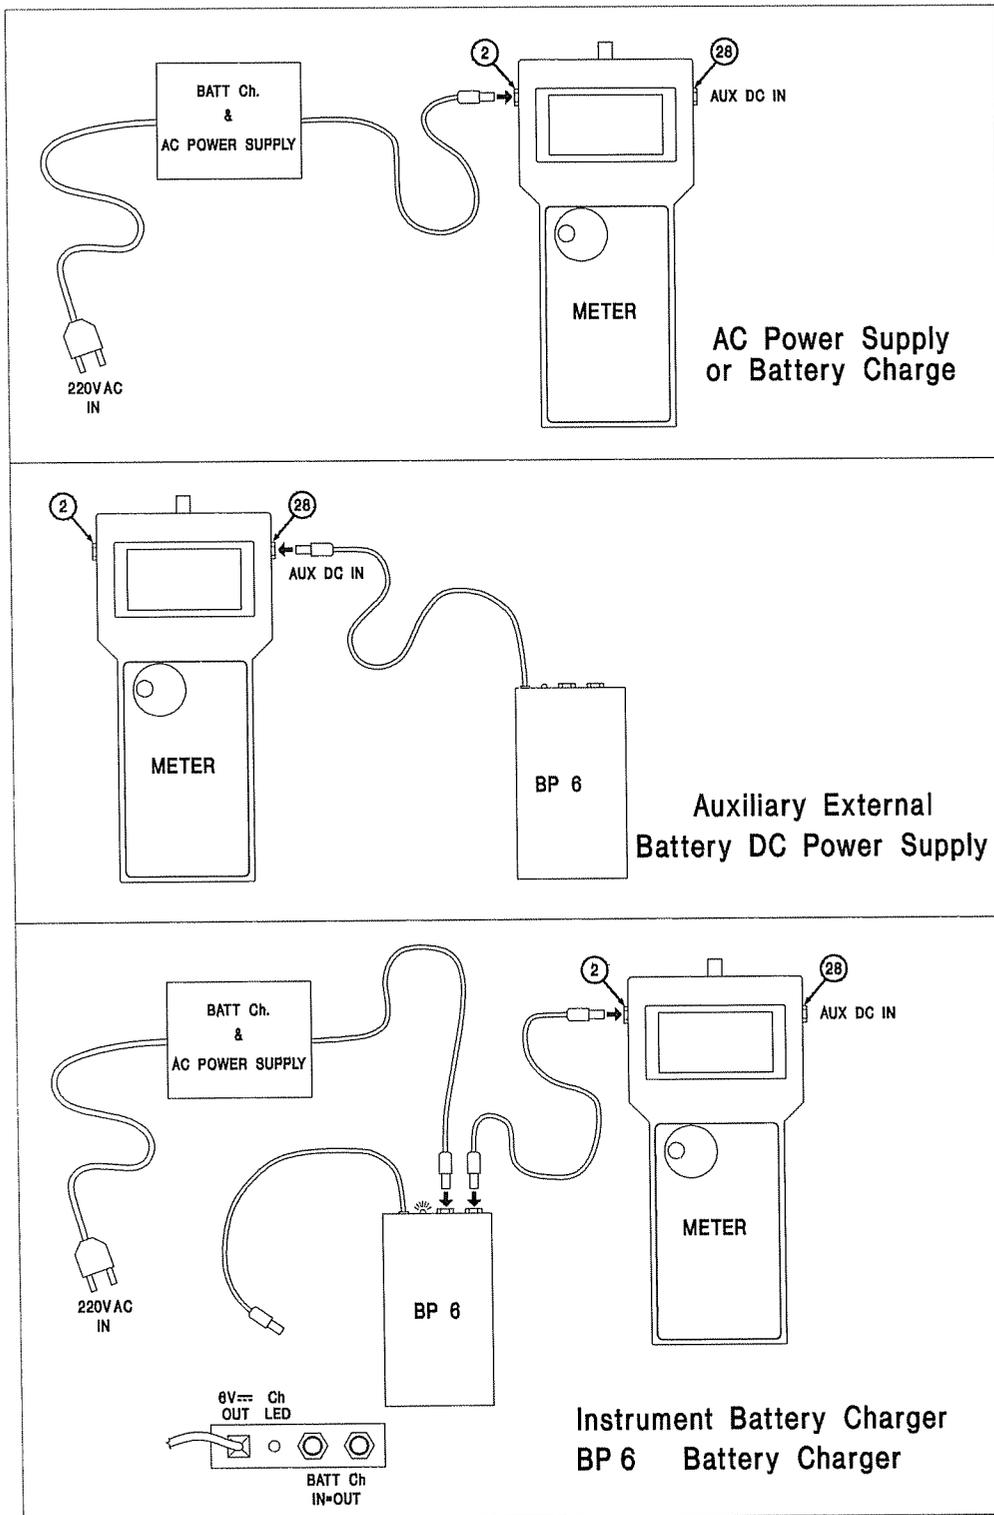

Figure 16 How to power the instrument via, and battery recharge with, BP6 pack
Figure 16 shows the three typical power supply modes of the instrument and BP6 battery recharge.
Connect the BP6 plug to the **AUX DC IN (28)** jack of the instrument (see the middle section of Figure 16).